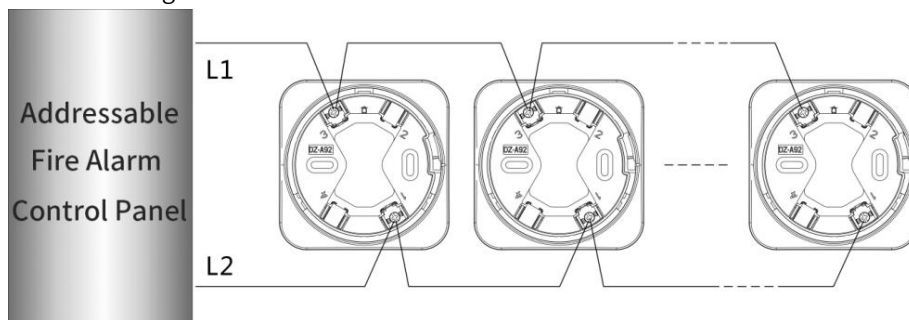

Fig.3
**5.2** Wiring mode: The audible and visual alarm is connected to the compatible fire alarm control system through the two-wire bus, and the non-polar connection is adopted. The L1 and L2 of the bus are connected to the 1 and 3 ends of the supporting base. The diagram of multiple audible and visual alarms connected to the addressable fire alarm control panel is shown in Fig.3.
- b. Disconnect the power supply of the controller and connect all bases according to Fig.3.